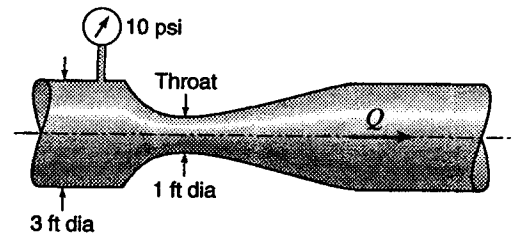

Figure S5.9
5.10.2 Water at 40°C flows horizontally through a constriction similar to that in Fig. S5.9 when the atmospheric pressure is 715 mmHg. The gage reading is 35 kPa,  $d_1 = 0.5 \text{ m}$ , and  $d_2 = 0.15 \text{ m}$ . Neglecting head loss, find the flow rate at which cavitation begins.